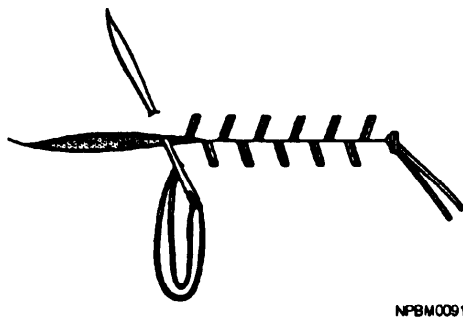

Figure 3-15.—Baseball stitch.
- Baseball stitch. The baseball stitch is used to mend tears in light and medium canvas. Figure 3-15 shows how it is done. Keep enough tension